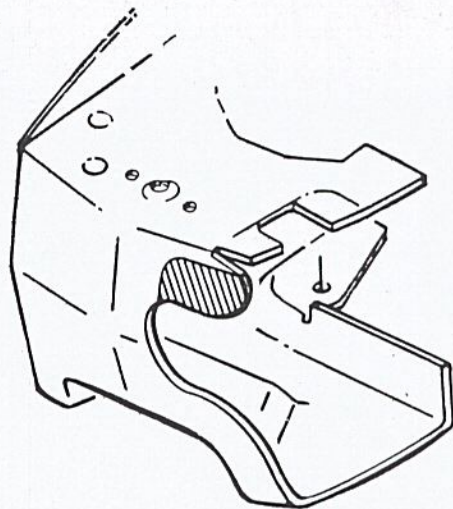

Figure 2. Shaded Area To Be Removed From Shroud.
7. Before re-installing the shroud, remove a section above the spark plug opening for the DSP valve (Fig. 2). Figure 3 can be cut out and used as a template for modifying the shroud. After removing the section shown, file the edges for smoothness.